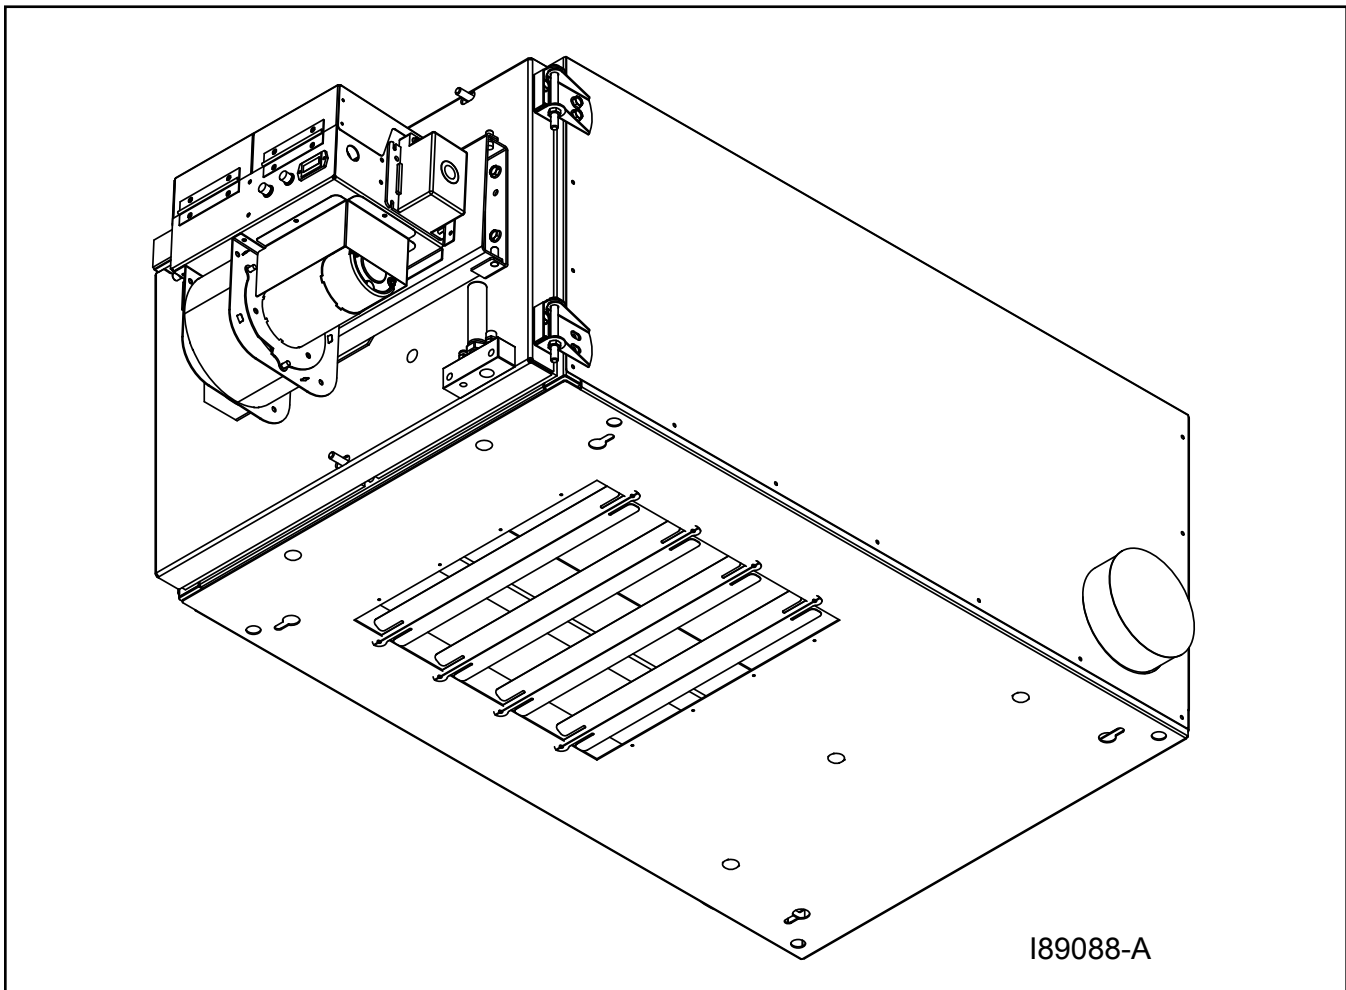

Figure 3C - Installing the Hot Air Discharge Louvers
1. Refer to Figures 3C. Determine the desired air flow discharge direction. Note that each furnace is supplied with four (4) louvers.